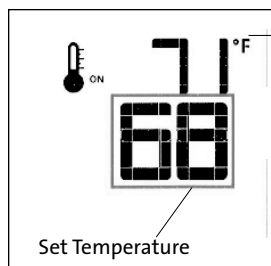

Fig. 8.17. Thermostat ON.
- To activate this function, press the Thermostat Key. The display will indicate that the room thermostat is “ON” and the current Set Temperature is now displayed. Fig. 8.17.